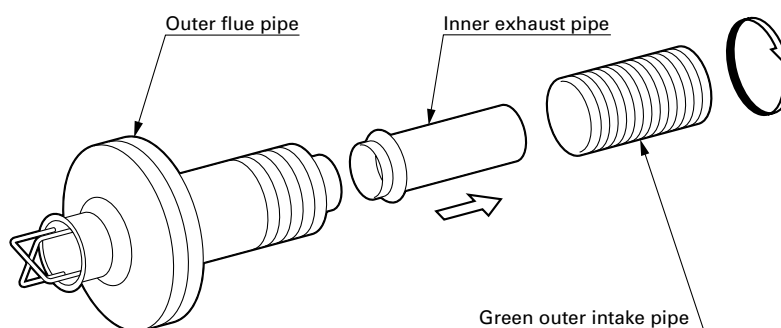

Fig. 8
5. Install the Balanced Flue Pipe. NZ Lasers are supplied with extensions to the outer and inner Balanced Flue Pipe (See Fig. 8) to enable the Balanced Flue Pipe to be installed in walls up to 320 mm thick. If the wall is less than 230 mm thick, discard the extensions as in Fig. 8.
- b. Where the wall thickness is between 130~230mm, discard the 150mm long Intake and Exhaust extensions that are supplied with the Laser. (See Fig. 8)
Where the wall thickness is 230mm to 320mm thick, the 150mm long Intake and Exhaust flue pipe extensions (Supplied with every NZ Laser 73 as in Fig. 8, are required).